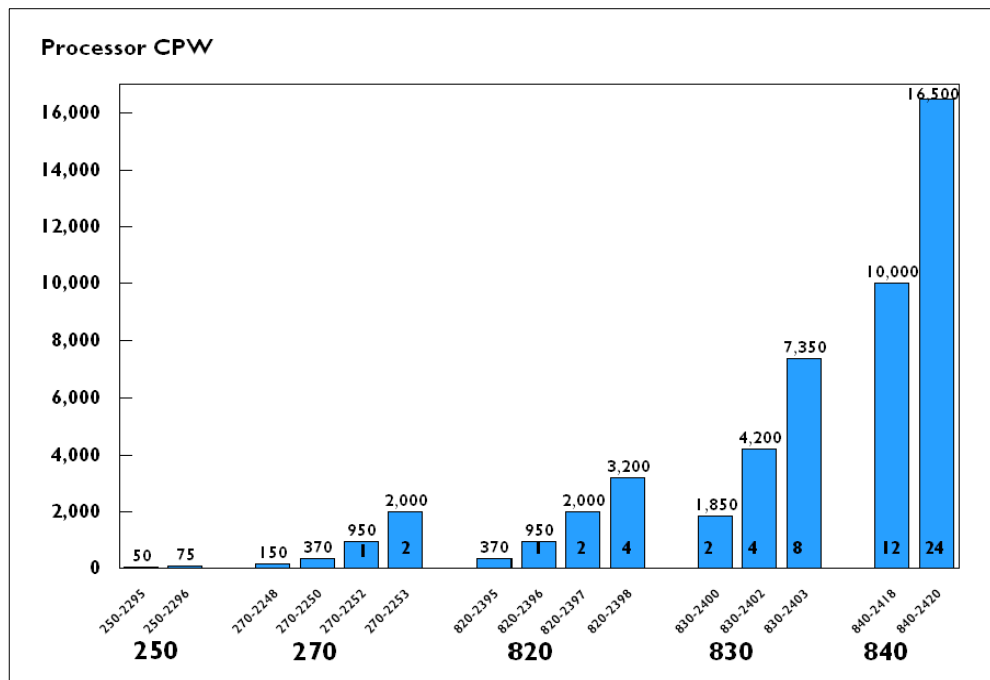

Figure 14. AS/400 scalability
- **Scalability:** AS/400 systems cover a wide range of performance capacities. AS/400e servers 1XX, 2XX, 7XX, and 8XX provide many processor options to choose from based on the performance requirements. At the high end of these servers, the AS/400e server 840 with 24 central processors provides 330 times the performance boost over the smallest model 250. Figure 14 shows the performance span of the newest AS/400 Models 250, 270, 820, 830, and 840, measured in Commercial Processor Workload (CPW).